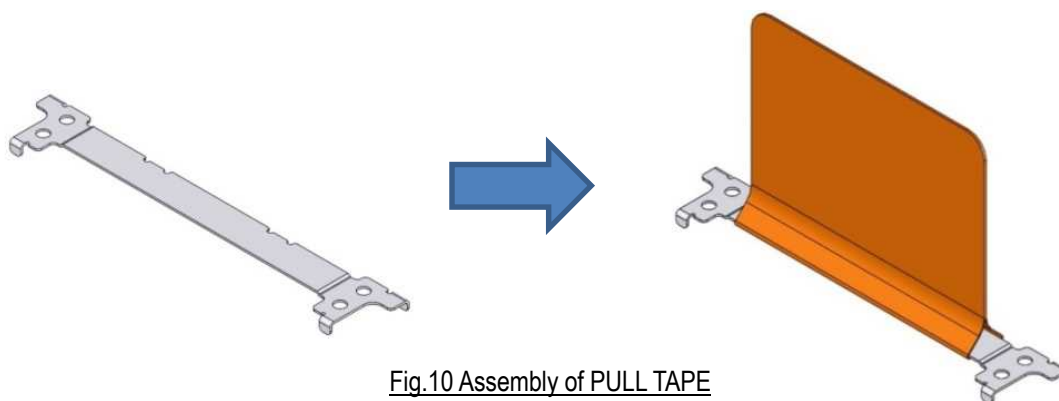

Fig.10 Assembly of PULL TAPE
① Tape PULL TAPE around PULL TAPE HOLDER as shown in Figure 10.